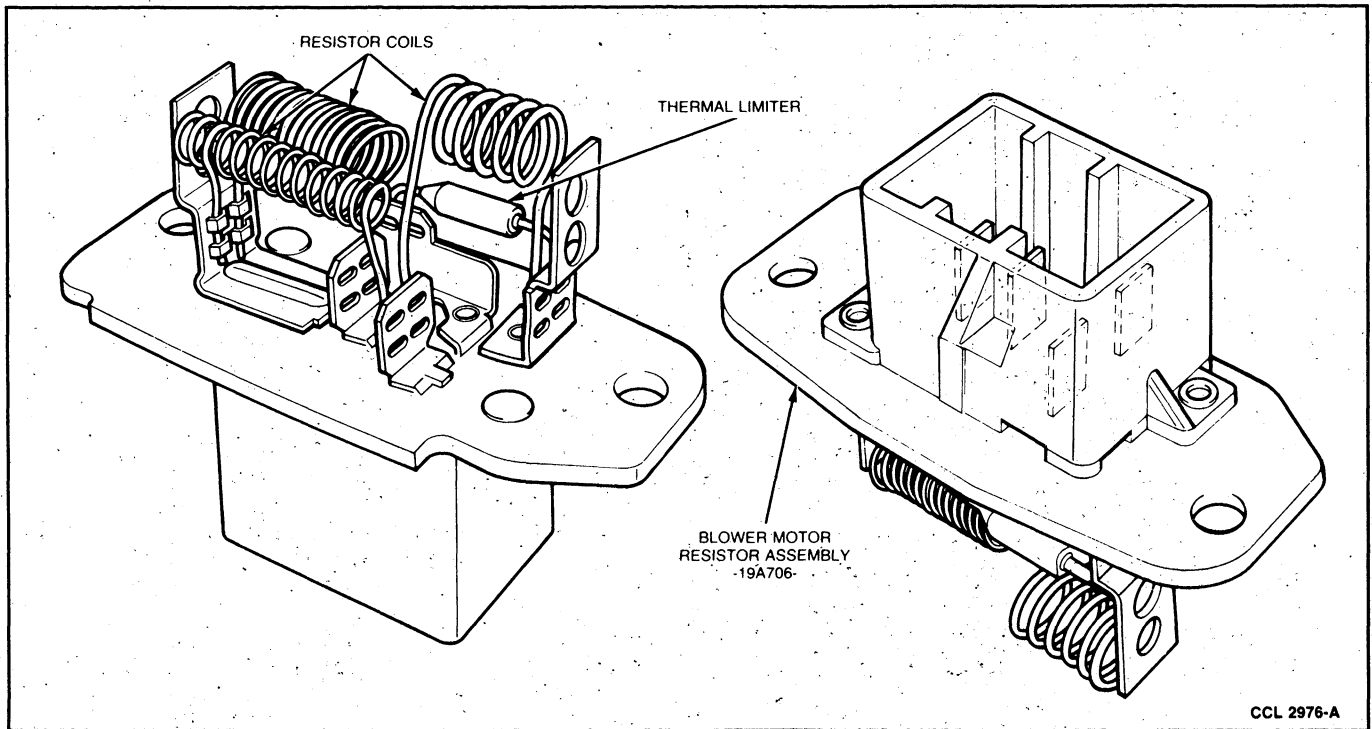

FIG. 28 Blower Motor Resistor Assembly
1. Disconnect electrical connector from resistor located on the evaporator case in the engine compartment. Refer to Figure 28.